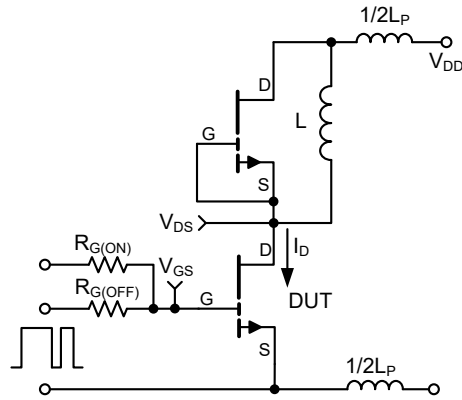

Figure 16: GS66516B Switching Loss Test Circuit
(7) L_p is the switching circuit parasitic inductance.
(8) See Figure 16 for switching test circuit.